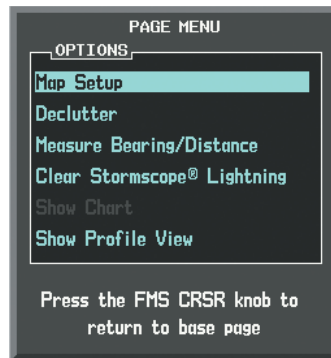

Figure 6-119 Page Menu
- 2) With 'Map Setup' selected (Figure 6-119), press the **ENT** Key.